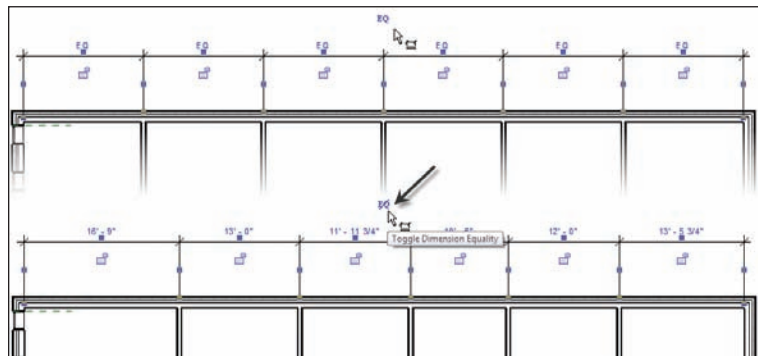

FIGURE 5.31 Before and after the EQ icon is selected
1. Find the EQ icon in the middle of the dimension string and pick it. The slash through it is now gone and the walls have moved, as shown in Figure 5.31.